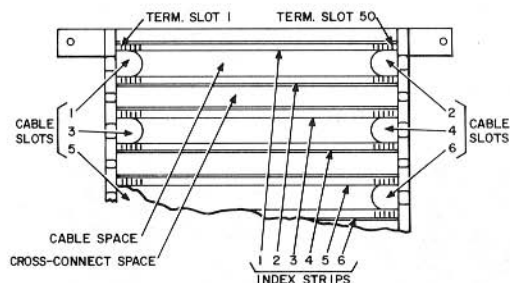

Fig. 15—Numbering Plan for 88-Type Wiring Block
(1) When station or equipment cable enters from the top, use No. 6 twine with a weight. Drop behind wiring block and use wire hook to fish through proper cable slot. Pull cable down through cable slot.
(2) When cable enters from the bottom, drop weighted No. 6 twine through proper cable slot and down behind the wiring blocks. Pull cable up through cable slot.
3.06 Cable slots are numbered with the odd numbers on the left and the even numbers on the right, from top to bottom (Fig. 15). In the red field, only the odd number cable slots on the left side are used.